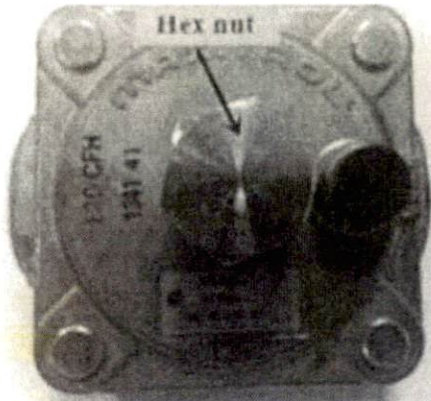
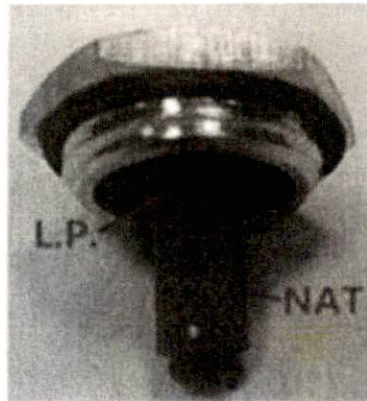

Fig. 8
Fig. 9
2. Screw the hex nut (Fig.8) before connect air intake, ensure gas mark (Fig.9) on the plastic core match with connected gas source, if not, then pull out the plastic core and change another head, insert it again. The same as exchanging gas source.